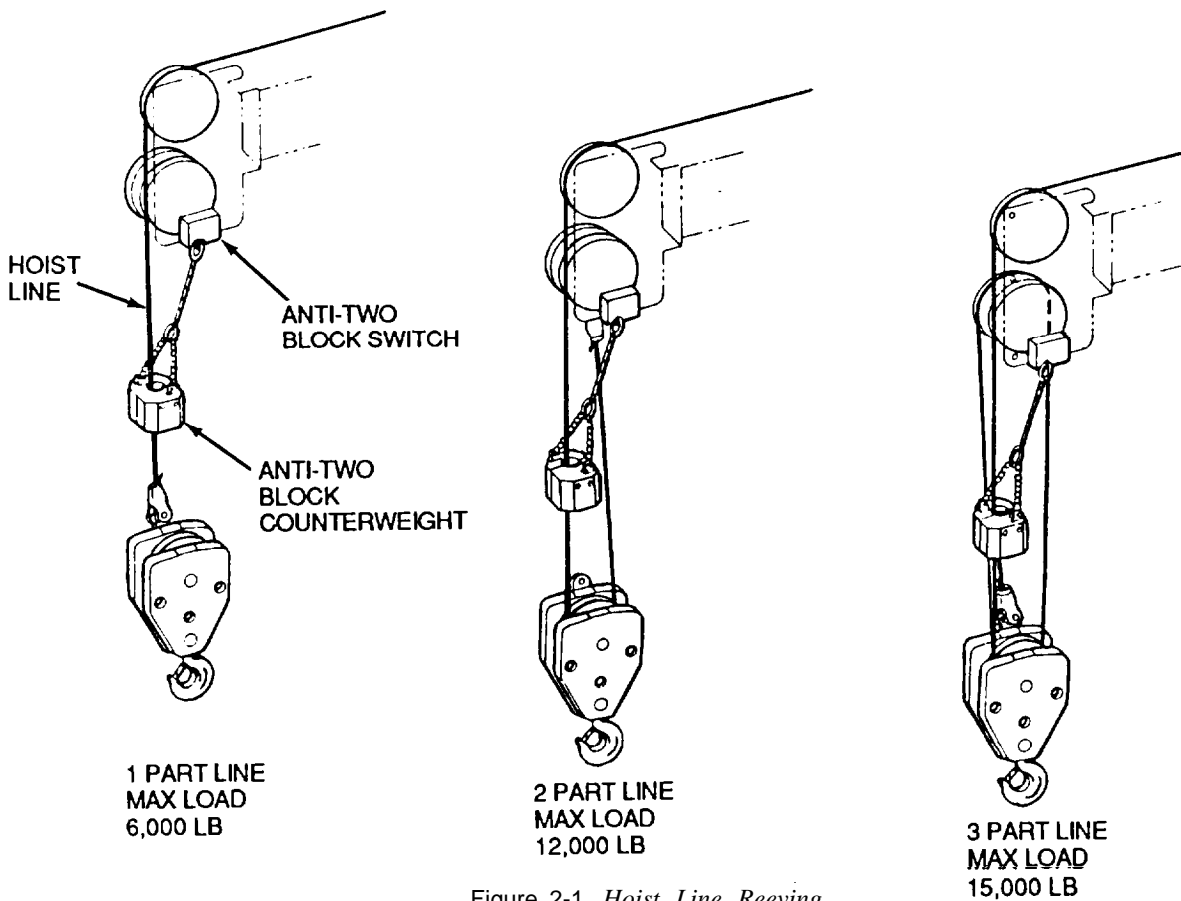

Figure 2-1. Hoist Line Reeving
1. Remove socket and wedge from cable and thread it through the hook block for 2-part and 3-part reeving (Figure 2-1).